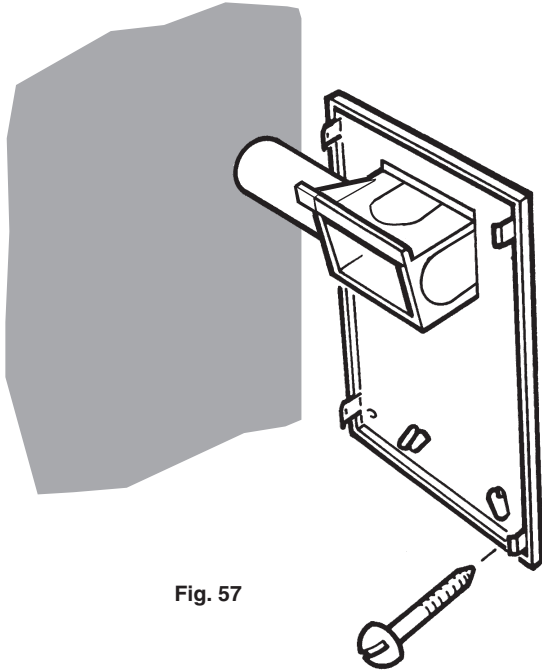

Fig. 57
8. Secure the assembly to the wall at the previously drilled anchorage points with suitable screws. Before finally tightening the screws, check that the assembly is level (Fig. 57).